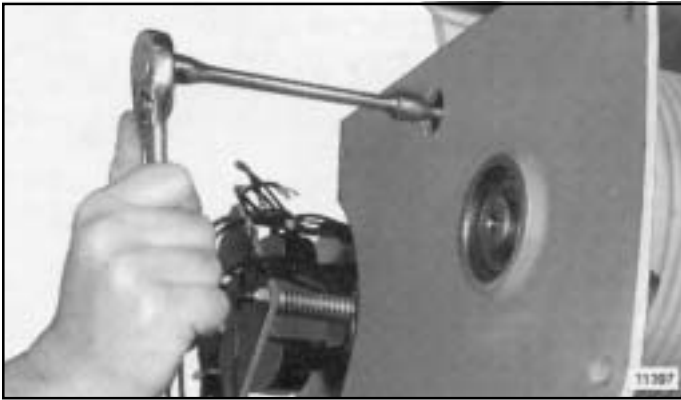

Figure 5-11. Removing Bolt Securing Gearcase to Frame.
b. Remove four hex socket head bolts securing gearcase to cover. Three bolts are accessible from inside frame (Figure 2-2, Section II) and the fourth is accessible from electrical end of frame thru special access hole using a socket hex key wrench with an extension (Figure 5-11). With bolts removed, pry assembled gearcase and motor from frame. Exercise caution so that gearcase and motor assembly does not fall as it comes free of frame. This disassembly operation is not recommended with hoist suspended. Drum will remain in frame and can be lifted from drum shaft. To remove shaft, remove internal retaining ring from bearing bore in frame.